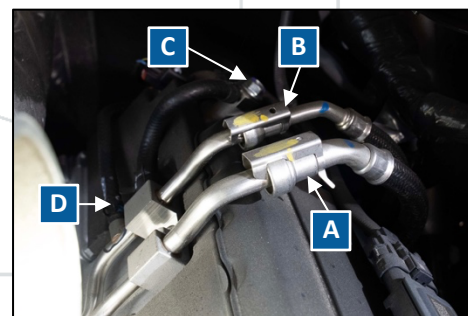

Figure 26: Fuel Feed and Return
41. Disconnect fuel feed (1/2") and return lines (3/8") (labeled A and B in Figure 26).
42. Remove fuel return line banjo bolt at rear of driver side head, 13mm hex head bolt (labeled as C in Figure 26).
43. Remove injector return hose from line set, just below the banjo bolt hose (labeled as D in Figure 26).